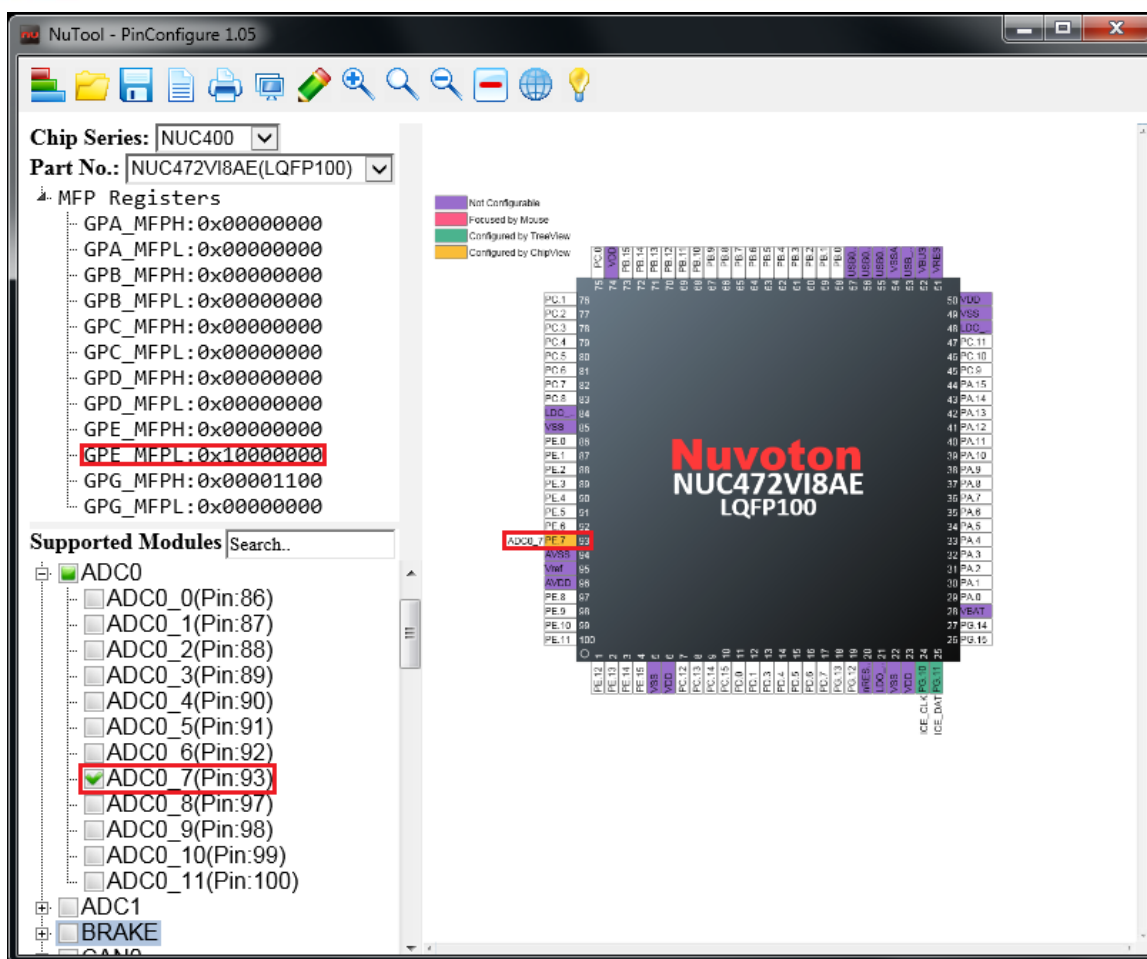

Figure 3-12 Results of Configuring ADC0_7 by the Individual Pin
2. Move the mouse cursor into the list and select the expected GPIO function and click on it. Configuring by the individual pin is accomplished. At the same time, the TreeView and the value of the MFP register will be updated correspondingly (referring to Figure 3-12).